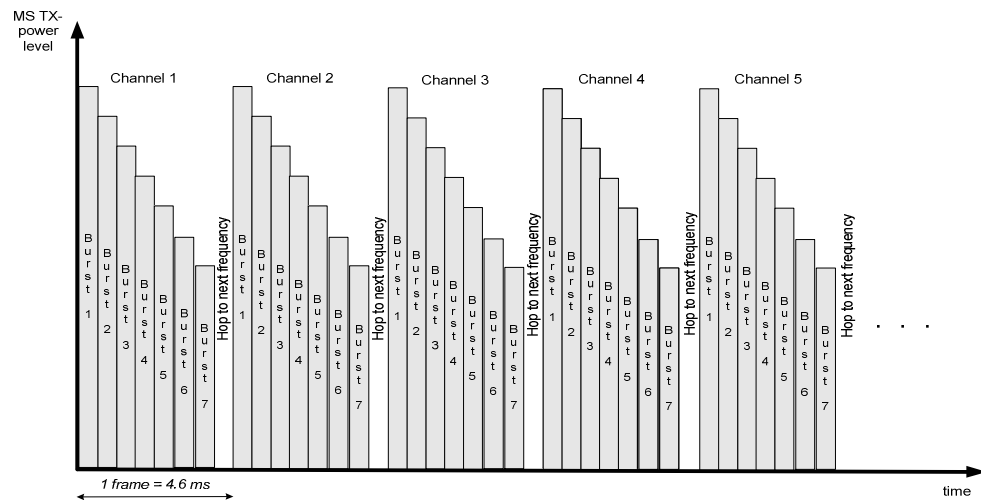

Fig. 8-2 Alignment of measured slots in the TX Calibration measurement
The *TX Calibration* measurement provides the average burst power in up to 100 consecutive frames where the DUT may transmit at different frequencies. The R&S CMU measures the burst power in 7 slots per channel so that in total up to 700 burst power results can be acquired over a measurement time of 100 frame periods (100 x 4.6 ms = 460 ms). The gain in speed is due to the dense alignment of measured slots with different frequencies and powers; see Fig. 8-2 on p. 8.3. The measurement time decreases with the number of frames measured.
2. Define a hopping sequence so that the mobile changes its frequency after each TDMA frame, using the channels 1, 4, 7, ..., 121, 124 (42 different channels). The mobile output power level is according to Fig. 8-2 on p. 8.3.
The frequencies in the measured frames can all be different; they must be set in the *Control* tab of the *Power Configuration* menu (*Frequency List*; see p. 8.4 ff), together with the *Repetition Mode* of the measurement. Moreover, the power can vary from one slot to another. A typical MS output power ramp is shown in Fig. 8-2 below.
The measurement must be triggered. In the example of Fig. 8-2 above a power trigger (trigger source *RF Power* or – preferably – *IF Power*) can be used. As an alternative, provide an appropriate external trigger signal.
The analyzer frequency changes after each TDMA frame (see Fig. 8-2 on p. 8.3); the output transmitter frequency of the mobile under test must be set accordingly. To measure a sequence of less than 100 frames, any of the frequencies in the list can be set to *Off*. The R&S CMU always measures in consecutive frames; the total measurement time is  $n$  times 4.6 ms where  $n$  is the number of frequencies that are not switched *Off* and 4.6 ms is the TDMA frame duration.